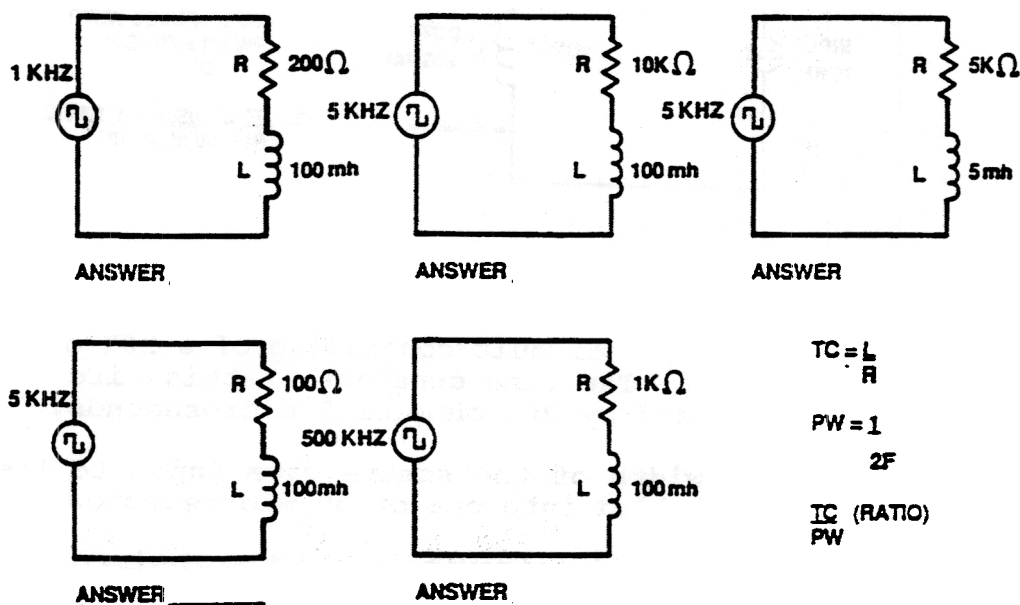

Figure 18
Calculate the Time Constant (TC)/Pulse Width (PW) ratios for each of the LR circuits in figure 18. The required formulas are shown. First calculate the time constant. Next, calculate the pulse width. Record the TC/PW ratio answer for each of the circuits. The answers for the calculated time constant and pulse width should be in microseconds.